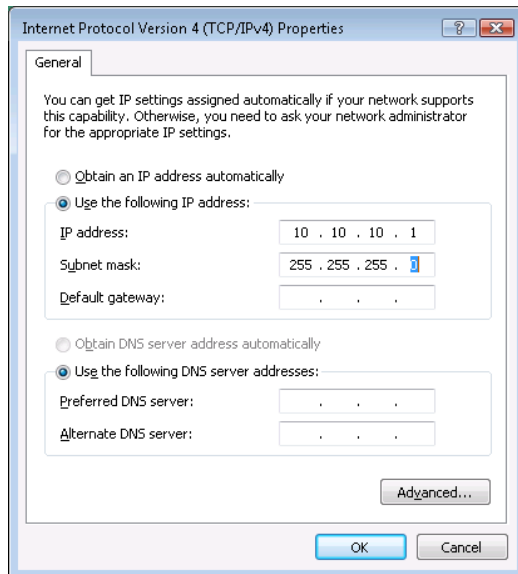

Figure 60 Internet Protocol Version 4(TCP/IPv4) Properties
- 5 In the '**Internet Protocol Version 4 (TCP/IPv4) Properties**' dialog (see Figure 60) select the option '**Use the following IP address**' and enter your computer's '**IP Address**' and '**Subnet Mask**'.